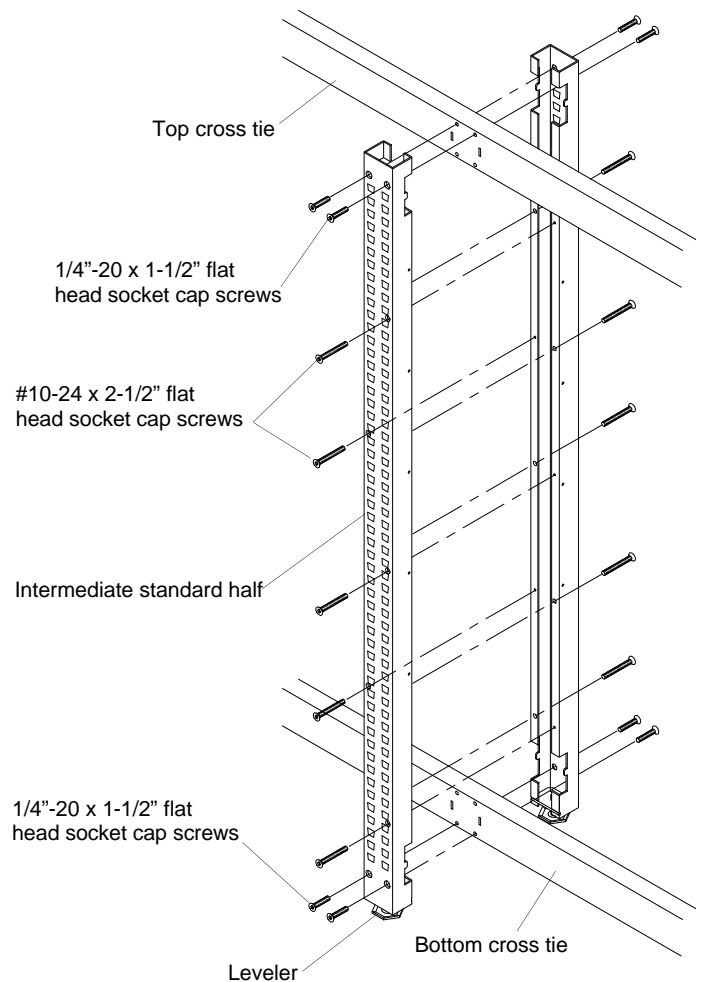

Figure 8
1. Locate the appropriate hole patterns in the Cross Ties and attach the two **Intermediate Standard** halves to the top/bottom Cross Ties with eight 1/4"-20 x 1-1/2" flat head socket cap screws and tighten securely. See **figure 8**.
2. Complete the assembly by installing #10-24 x 1-1/2" flat head socket cap screws at the pre-punched locations on both the front and back halves of the Intermediate Standards and tighten securely. See **figure 8**.